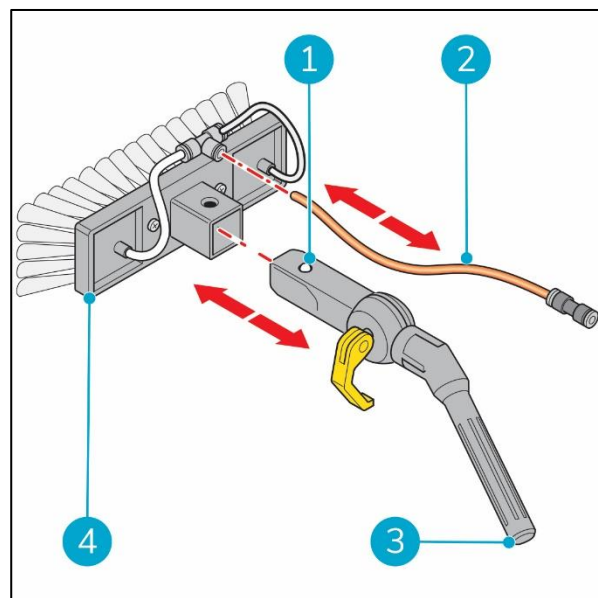

Figure 7
1. Remove the water tube from the water connector of the brush (Figure 7, pos 2).
2. Push the ball button (Figure 7, pos 1) to release the brush from the gooseneck.
3. Remove the brush (Figure 7, pos 4) from the gooseneck (Figure 7, pos 3).